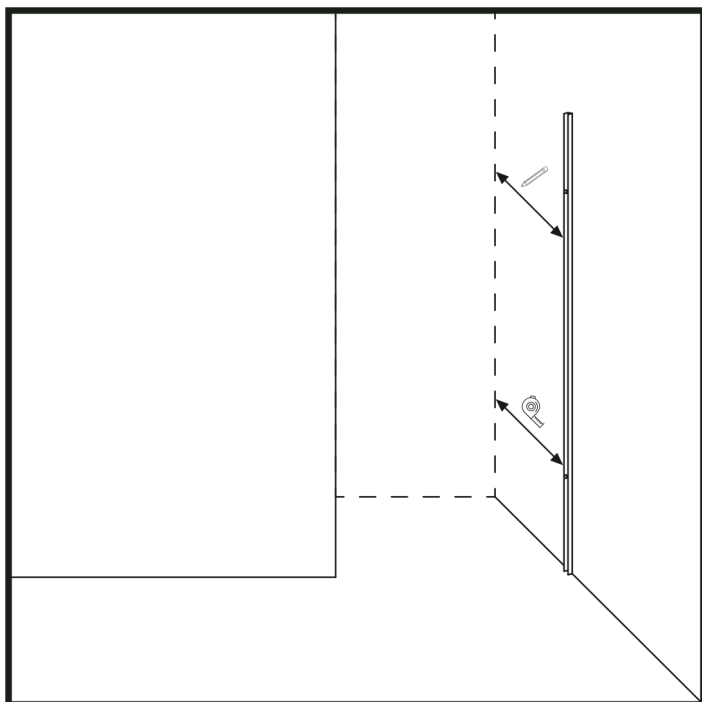

Figure 1
1. Measure the distance of the hinge bar profile from the parallel wall according to your wishes, based on the designed location of your shower door, and make a mark. (Figure 1)